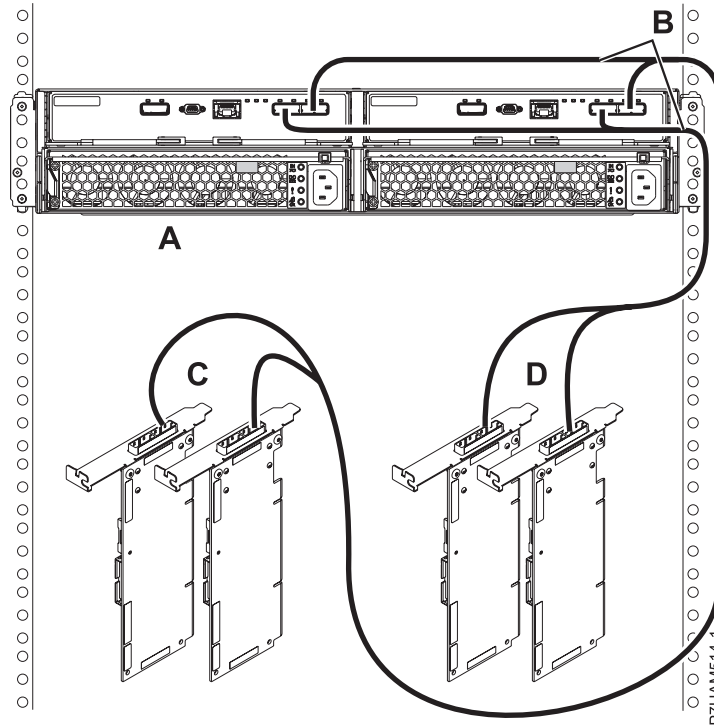

Figure 42. Mode 2 connection of one 58/87 disk drive enclosure by using X cables to two SAS adapter pairs
16. Perform the mode 2 connection of one 58/87 disk drive enclosure (A) by using X cables (B) to two SAS adapter pairs as shown in Figure 42 on page 73.
- Each adapter in the SAS adapter pair 1 (C) has access to the other adapter and to drive bays D1 - D12.
- Each adapter in the SAS adapter pair 2 (D) has access to the other adapter and to drive bays D13 - D24.